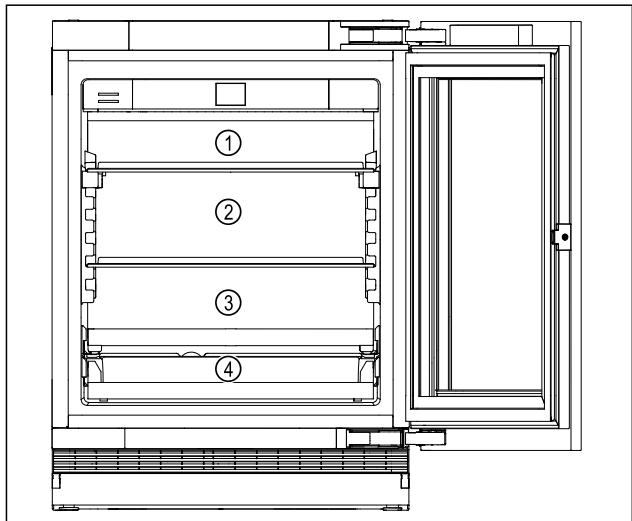

Fig. 4 Example illustration
- Top area Fig. 4 (1): Store butter, cheese, canned food, and tubes.
- Middle area Fig. 4 (2): Store packaged fruit and vegetables, baked goods, and cakes.
- Bottom area Fig. 4 (3): Store perishable food, such as pre-cooked meals, fish, fresh meat and lunch meat.
- Beverage shelf Fig. 4 (4): Store cans, smaller bottles.